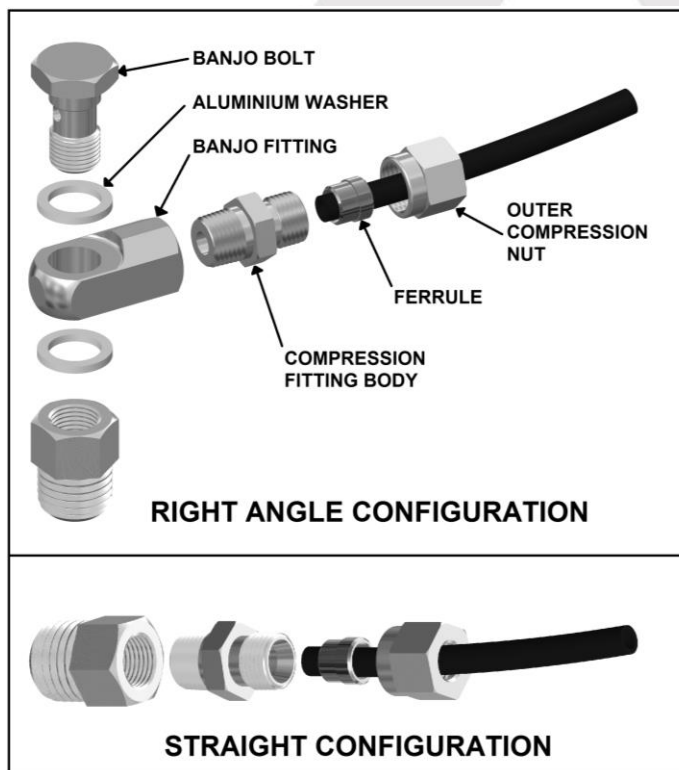

Figure 16.
- Assemble an aluminium washer onto the banjo bolt and insert through the banjo fitting. Assemble second aluminium washer and tighten into bulkhead fitting using a 14mm [9/16"] spanner. (Fig.16.)
NOTE : When right angle routing of the tube is not required, screw the compression fitting body straight into the bulkhead fitting body (Fig.16.).